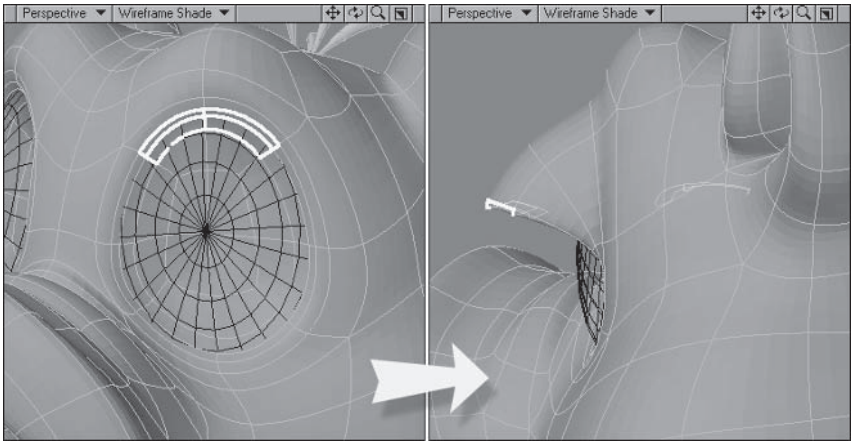

Figure 5.6-2. Rotating in the Perspective view rotates on the axis of the viewport.
4. **Zoom** up on the left eye and select the four middle polygons of the top eyelid geometry, shown in Figure 5.6-2.